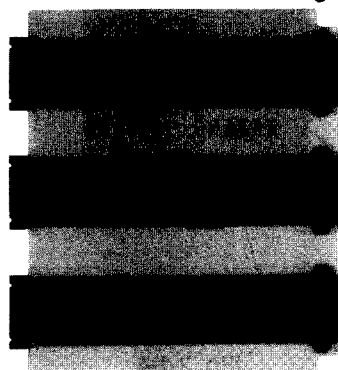

Fig. 1-2
- Extension Board (Part Number: YWV0EA0289AN) for System Control Board, Preprocess Board and Preamp/Encoder Board as shown in Fig. 1-2.